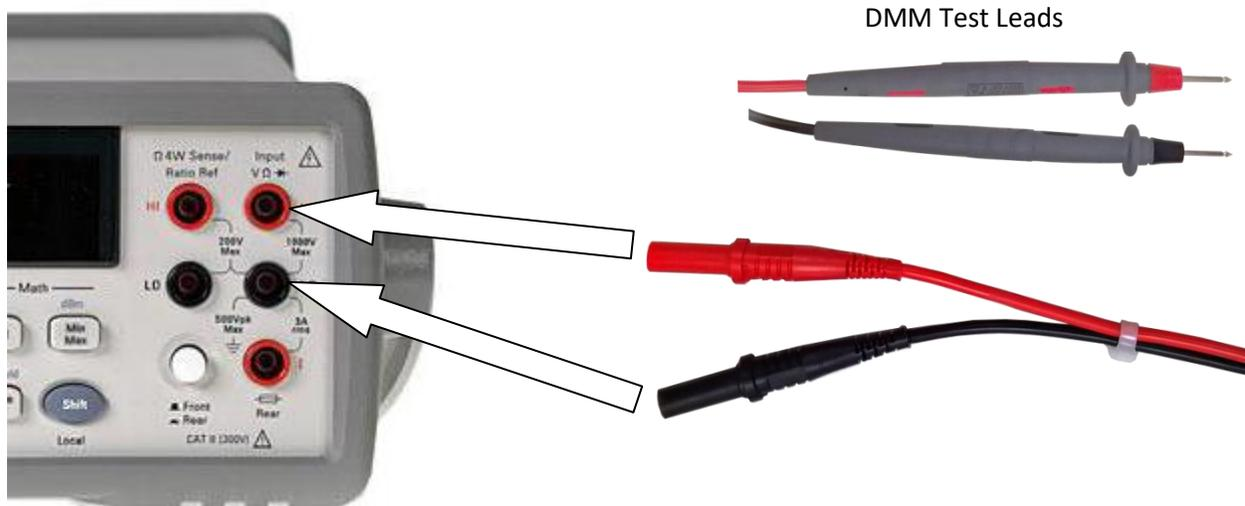

Figure 3: DMM Banana connector to DMM voltage input
3. Connect a red Banana to test lead to the 34401A voltage input and a black Banana to test lead to the 34401A ground input. (See Figure 3).
8. Now connect the red grabber (Figure 7) to the red DMM test lead (Figure 3) and the black grabber (Figure 7) to the black DMM test lead (Figure 3).
6. Now connect the red grabber (Figure 8) to the red DMM test lead (Figure 3) and the black grabber (Figure 6) to the black DMM test lead (Figure 3).
2. Connect a red Banana to test lead to the 34401A voltage input and a black Banana to test lead to the 34401A ground input. (See Figure 3).